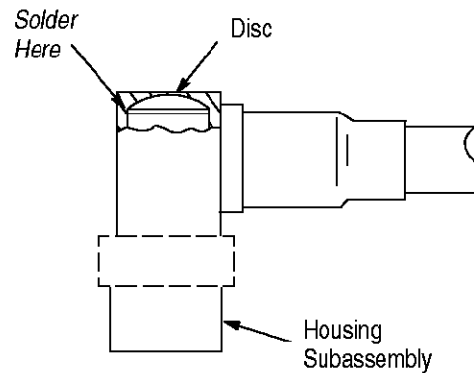

Figure 6
3.5. Sealing Opening in Housing (Figure 6)